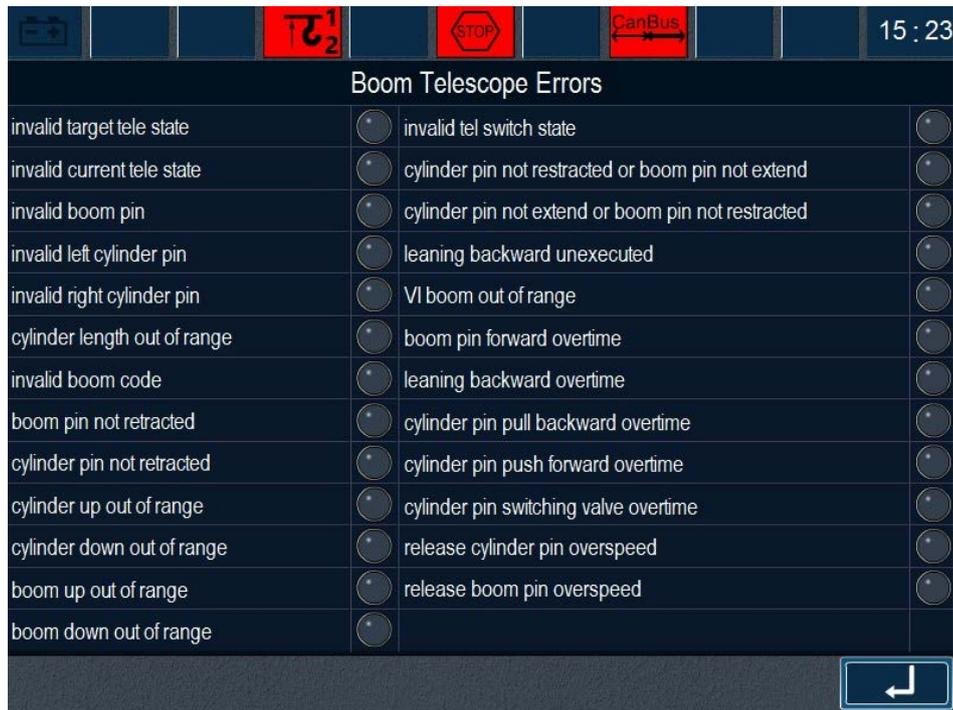

Figure 4-35 Boom telescope errors
- Icon  does not appear. (For the details, refer to Figure 4-35).
Press F3 to switch to Figure 4-35.